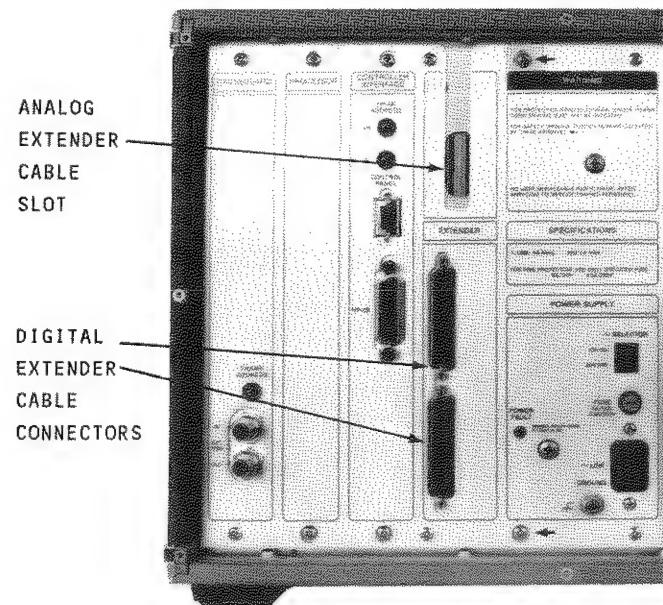

Figure 18. Bus Access or Extender Module Location.
- a. Remove the metal silkscreened panel which covers the **CROSSGUARD** through **POWER SUPPLY** system modules. Six no. 2 pozidriv screws hold this panel in place and are shown in Figure 18.
- c. Insert the Bus Access (or Extender Module) into the empty slot next to the power supply system module (see Figure 18).